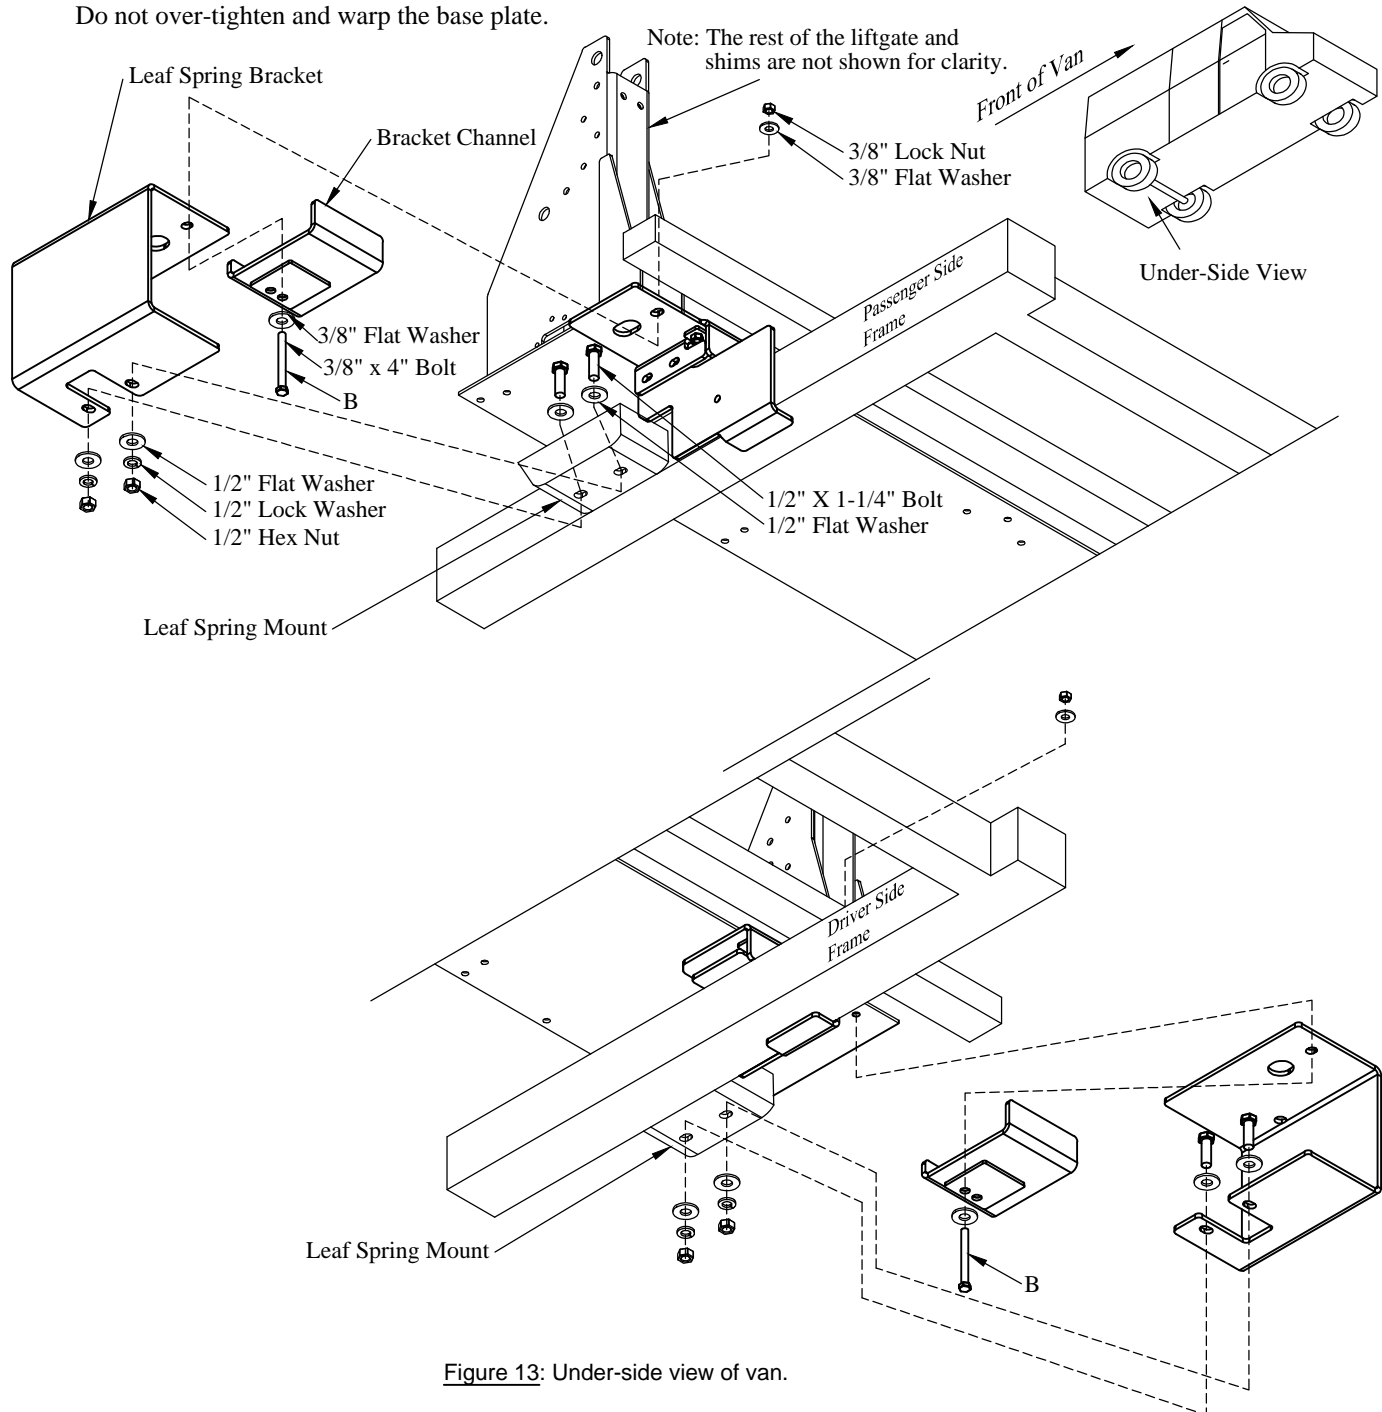

Figure 13: Under-side view of van.
15. **Install** the leaf spring brackets on the leaf spring mount, using the supplied 1/2" x 1-1/4" bolts, flat washers, lock washers, and hex nuts (Figure 13).
16. **Install** each bracket channel with a 3/8" x 4" bolt and flat washer, up from the bottom, at each "B" location (Figure 13). The van body may need to be temporarily jacked up for the bolt to be installed. Installing the bolt up from the bottom will give the greatest clearance for the van suspension.